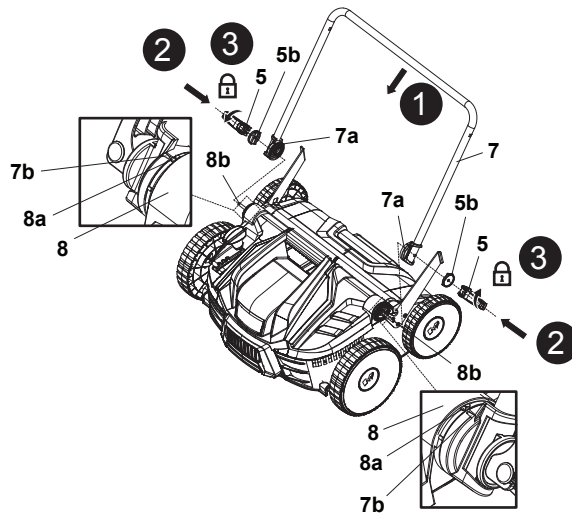

Fig. 1
1. Put the machine on the ground. Fit the dial plates (7a) to the ends of the lower handle support (8) with the toothed sides facing inwards.
2. Align and pass the dial plate (7a) through the mounting bolt (8b) of the handle support (8) on both sides of lower handle bar (7) (Fig. 1, step 1).
3. Check the orientation of flanges (5b) and align their slots onto the lower handle bar (7) firstly, then attach the clamp lever (5) onto the mounting bolts (8b) (Fig. 1, step 2).
4. Secure the handle assembly by folding up the clamp lever (5) towards the lower handle bar (7). If clamp lever (5) cannot be folded, loosen it and fold again. If it is too loose, tighten it by turning the clamp lever (5) clockwise (Fig. 1, step 3).